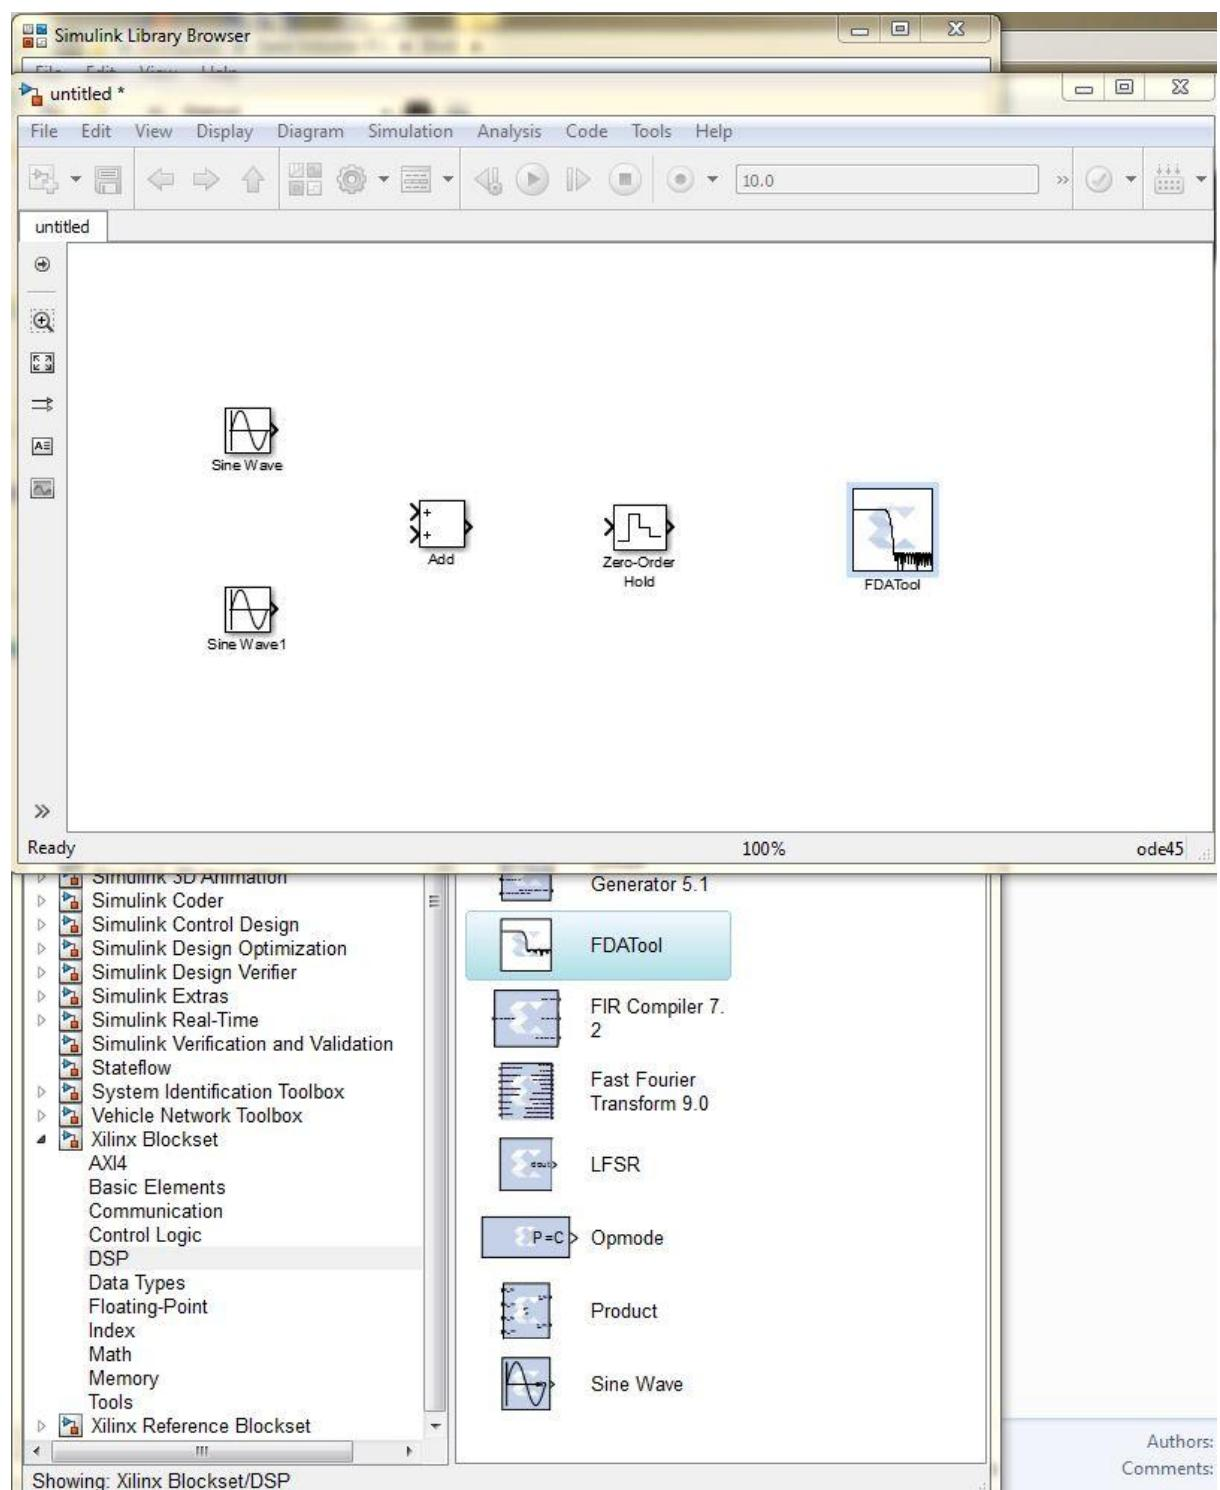

Figure 5: Addition of FDATool block.
6. Add FDATool block: *Xilinx Blockset > DSP > FDATool* as shown in the figure 5.